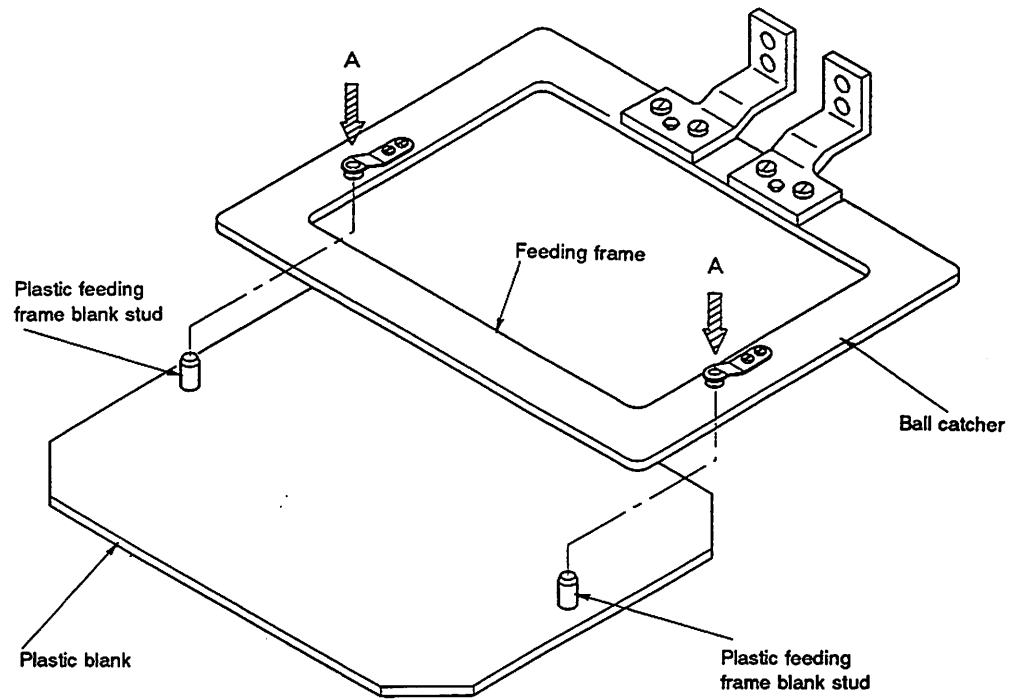
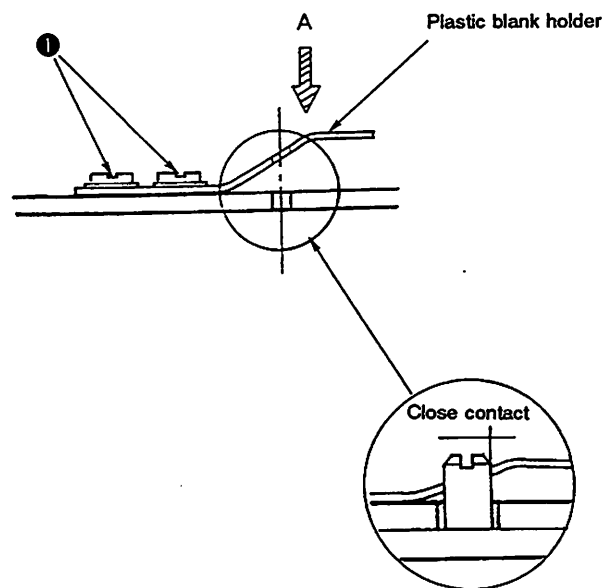

Fig. 5-39-1
Fig. 5-39-2
<ol style="list-style-type: none"> 1) Loosen screw ❶. Attach the plastic blank to the feeding frame and fix it properly. (Fig. 5-39-1, Fig. 5-39-2) 2) Adjust the position of the plastic feeding frame blank so that the plastic feeding frame blank comes in close contact with the plastic feeding frame blank stud, while pressing the plastic feeding frame blank in the direction A. Then tighten screws ❶. (Fig. 5-39-2) 	<ul style="list-style-type: none"> ○ The plastic feeding frame blank may easily drop from the feeding frame. The plastic feeding frame blank may fail to be set to the feeding frame.